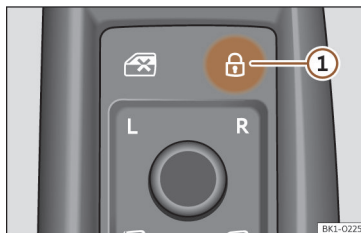

Fig. 74 On the driver's door: central locking button.
- Lock: press the button >>> **Fig. 74**.
- Unlock: Press the button >>> **Fig. 74** again.